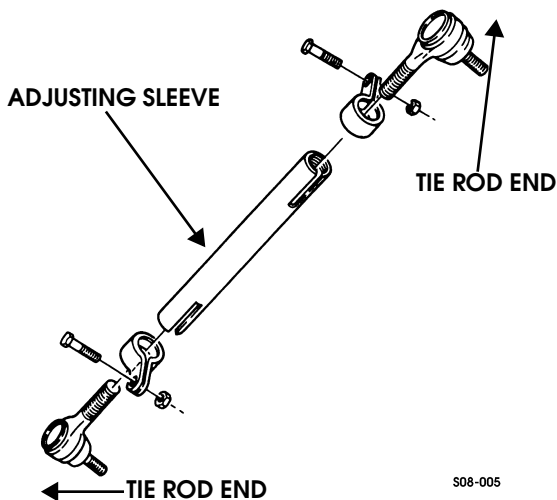

Figure 8-7: Tie Rod Component Parts
1. Loosen two locknuts and clamps securing the tie rod ends to the adjusting sleeve (Figure 8-7).